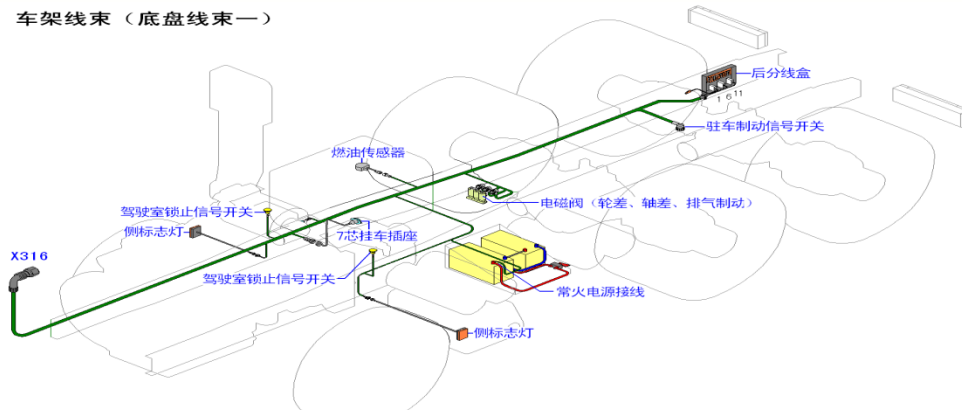

图1 车架线束结构
**1. 德龙车架线束：**车架线束又称底盘线束（一），主要功能是向底盘输出尾灯信号，电磁阀控制信号，给驾驶室输入常火电源、驾驶室锁止信号，燃油油量信号，驻车制动信号，轮、轴差（锁止）信号，其线束结构如图1所示。
Delong Chassis Wiring Harness: The chassis wiring harness, also known as the primary chassis harness, primarily functions to transmit tail light signals and solenoid control signals to the chassis, and to input constant power supply, cab lock signals, fuel level signals, parking brake signals, and wheel and axle differential (lock) signals to the cab. The structure of the wiring harness is shown in Figure 1.